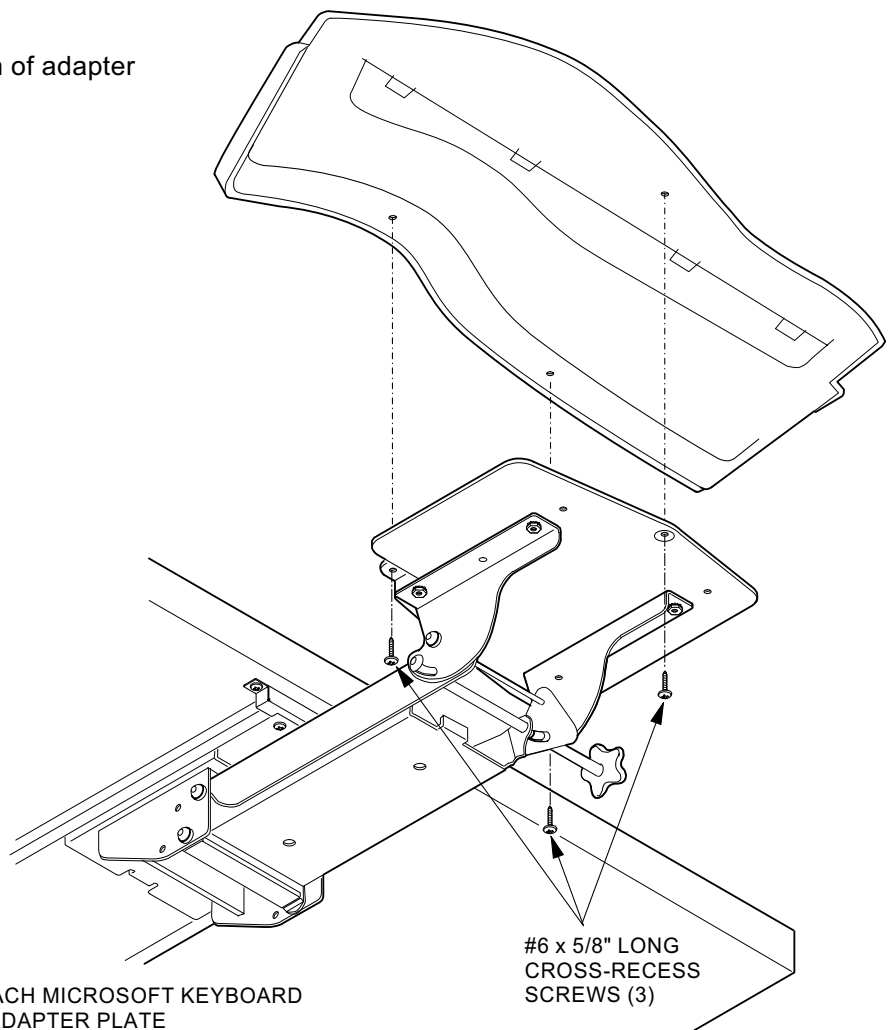

FIG. 1 ATTACH MICROSOFT KEYBOARD TO ADAPTER PLATE
2. Remove three (3) cross-recess screws from holes indicated in underside of Microsoft® keyboard (**Fig. 1**).
3. Set keyboard on adapter plate, aligning three holes in underside of keyboard with two recessed holes and one bracket hole in adapter plate. Attach keyboard to adapter plate using three (3) #6 x 5/8" cross-recess screws provided (**Fig. 1**).